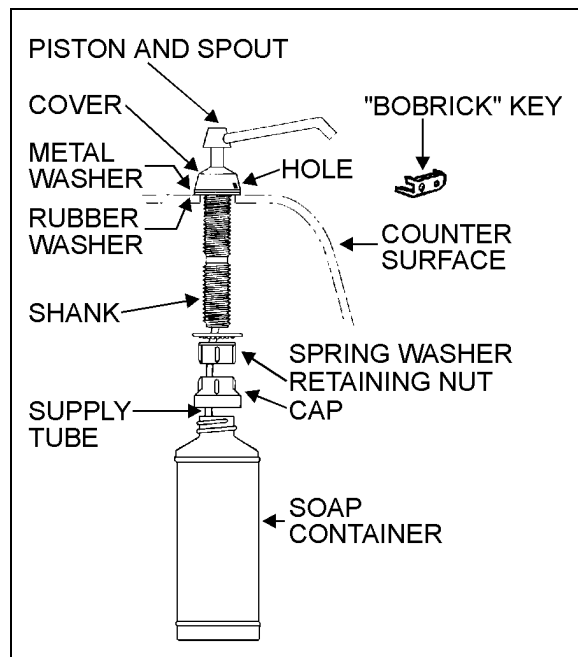

FIGURE 26: LIQUID SOAP DISPENSER
2. Insert projection at end of "BOBRICK" key into rectangular hole in cover (Figure 26). Push straight in. While holding "BOBRICK" key in, turn cover counterclockwise about 1/8 turn.